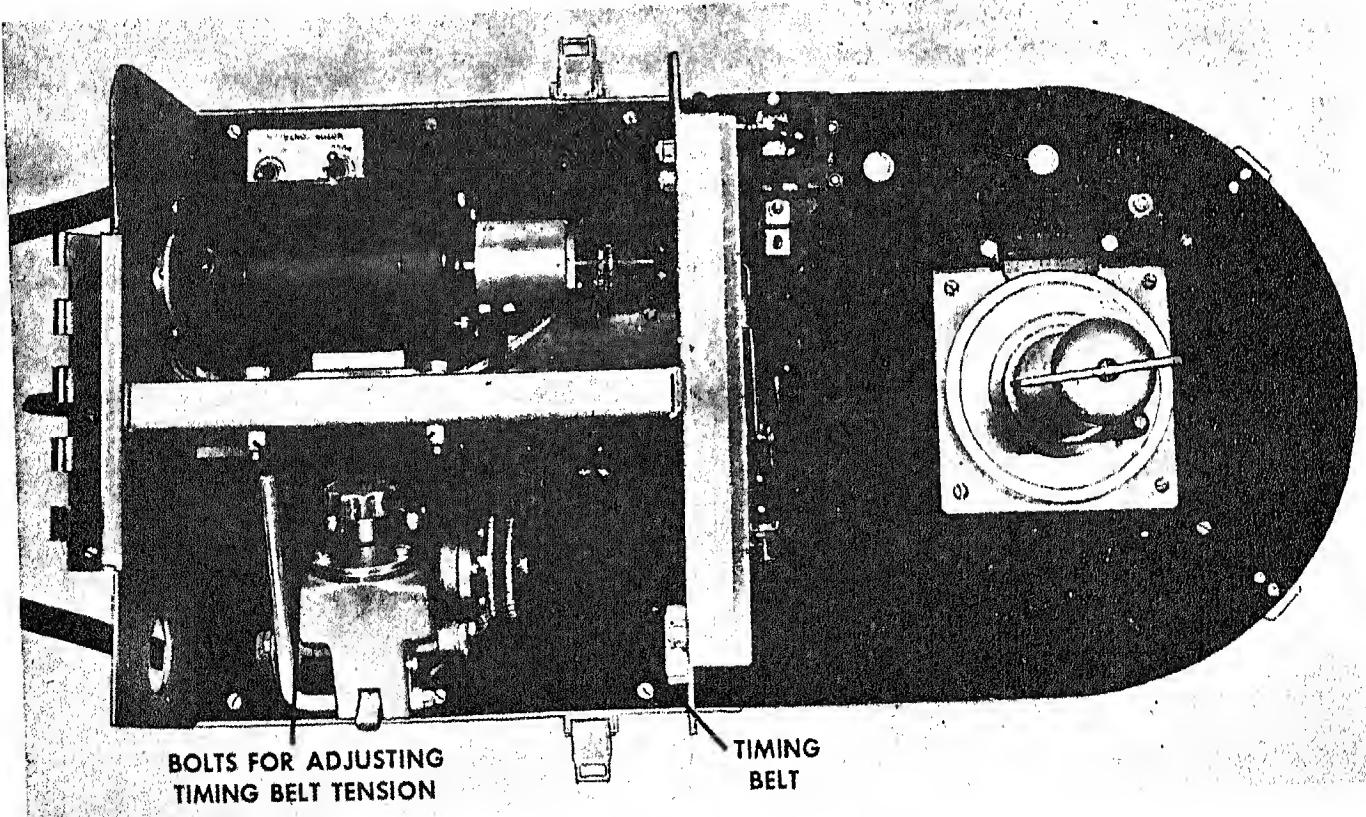
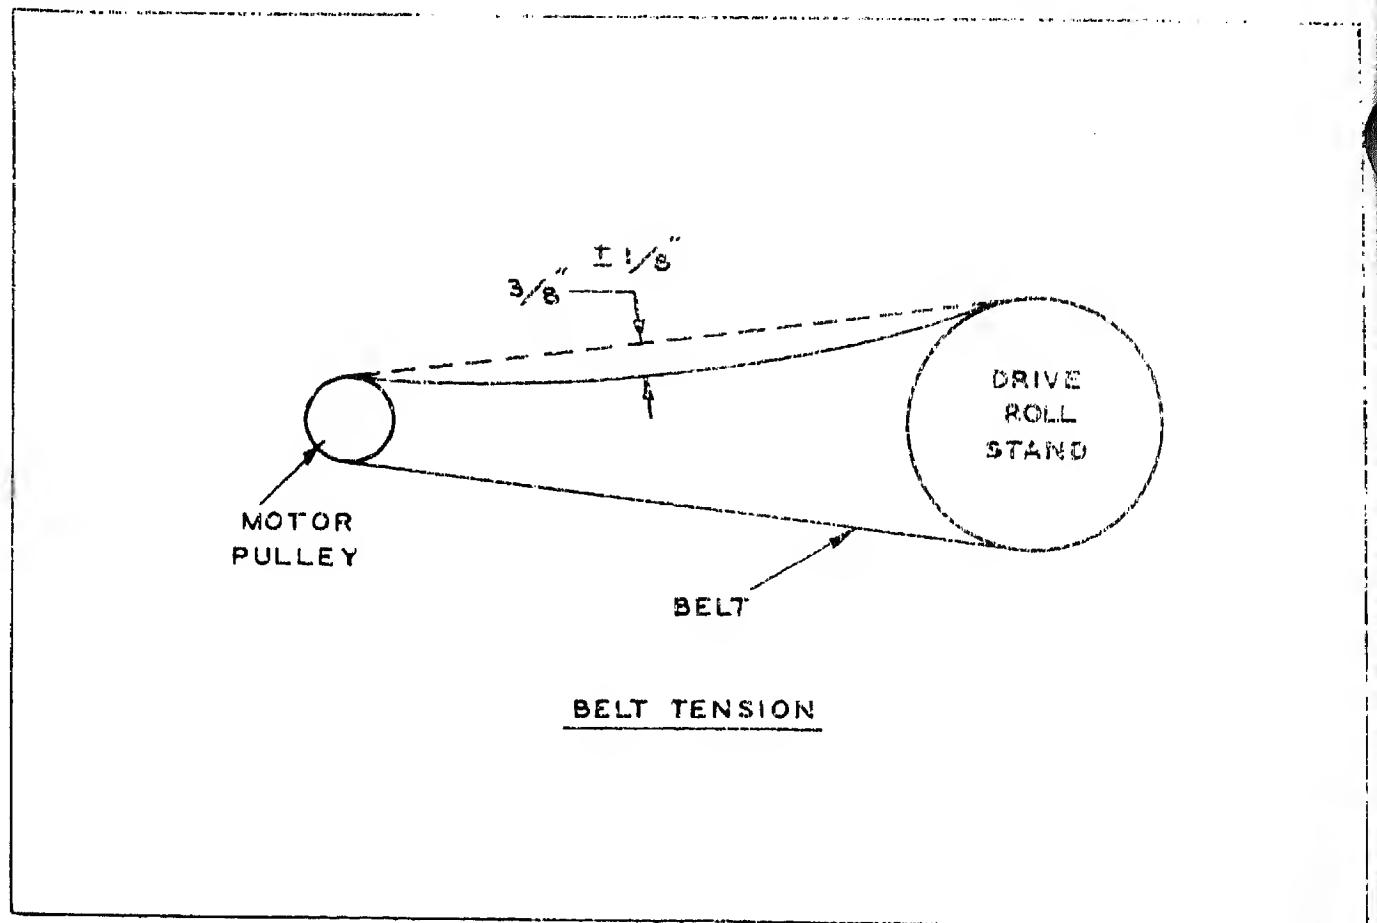

Figure 15. Timing Belt Adjustment
Figure 16. Adjustment Point for Timing Belt.
- d. Replace timing belt (Fig. 15) if worn or frayed. Check for proper belt tension.
adjustment of the timing belt tension. To replace the belt, it is not necessary to disturb this adjustment. The belt is eased off the pulleys and removed when the adapter is taken off the motor. Belt adjustment, however, is necessary whenever a motor is replaced. Adjust the timing belt (Fig. 15) by turning the motor mounting bolts until the tension on the belt is as shown in Figure 16. Make sure the motor is approximately parallel to the motor support, or the belt may run off the drive roll pulley.